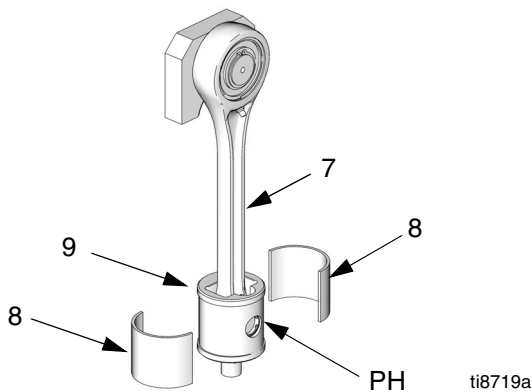

FIG. 17. Slider Bearings
13. See FIG. 17. Install the two new bearings (8) on the slider piston (9). The joints between the bearings must align with the pin hole (PH) in the slider piston.
6. Assemble the crank arm (4) to the connecting rod (7) with two retaining rings (6), oriented as shown.
7. Ensure that the joints between the bearings (8) align with the pin hole (PH) in the slider piston. See FIG. 17 on page 27.